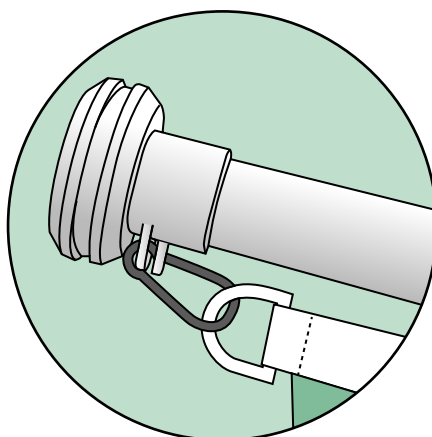

Fig 5
- 5, If you have been supplied with an angled flag, connect the top D-ring to the clip (see Fig 5).